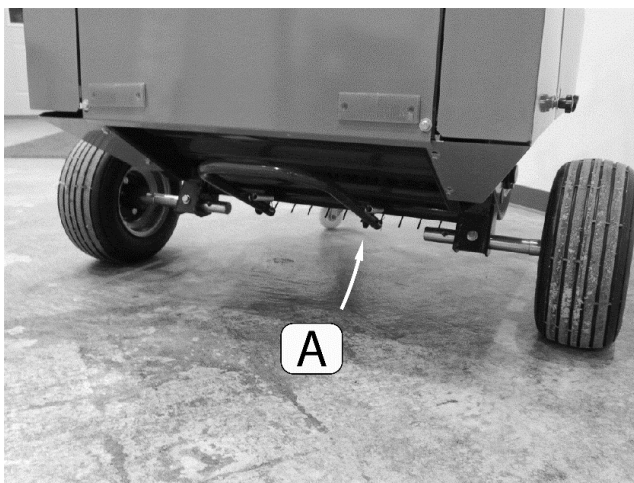

Figure 15
The bale ejector (Figure 15, A) rolls the finished bale far enough from the machine to allow the gate to close.
- a) Place the roll(s) in the chamber facing as shown in Figure 15.